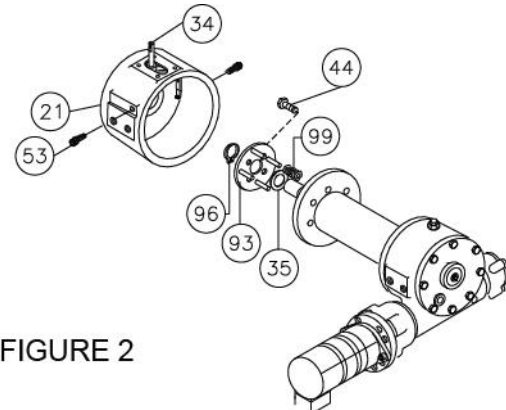

FIGURE 2
- Rope shows visible signs of wasting (See fig.2).